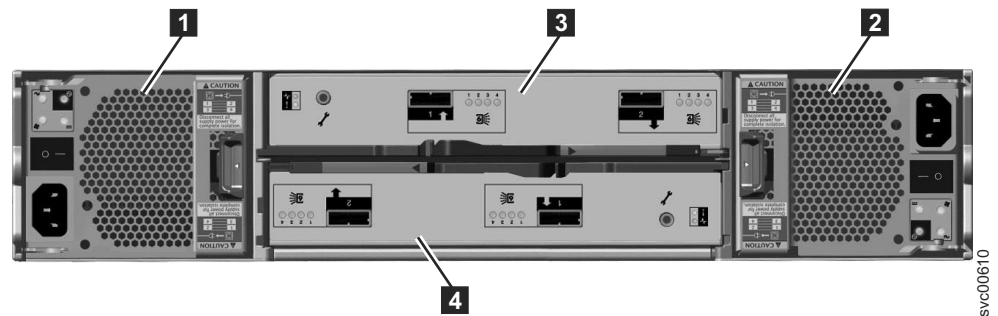

Figure 2. Rear view of a model 2076-212 or a model 2076-224 expansion enclosure
Figure 2 shows the rear view of an expansion enclosure and identifies the location of the power supply units and the canisters. The ports and their use are described later in this section.
- Two canisters are housed in the middle of the enclosure. Each canister is known as an expansion canister. The upper canister, as shown in Figure 2, is canister **3**, and the lower canister is canister **4**. Canister 3 is top side up, and canister 4 is inverted, or top side down.